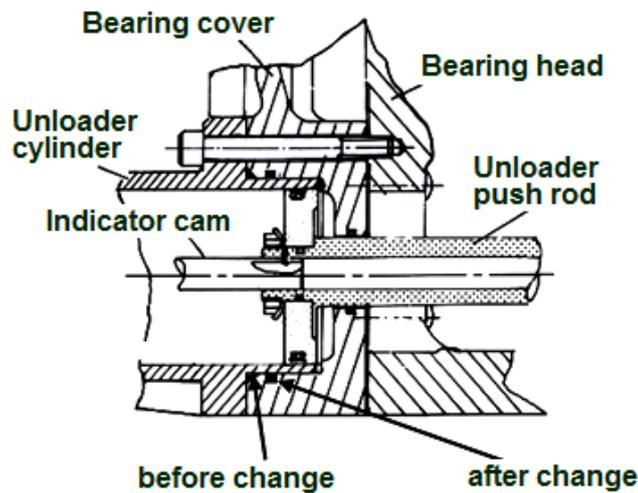

Figure 5-13 Change of The O-ring position for Bearing cover
* According to the design change on October 1996, the place O-ring 【63】 is attached has been changed from the opening with chamfered to the current position indicated in Figure 5-13.